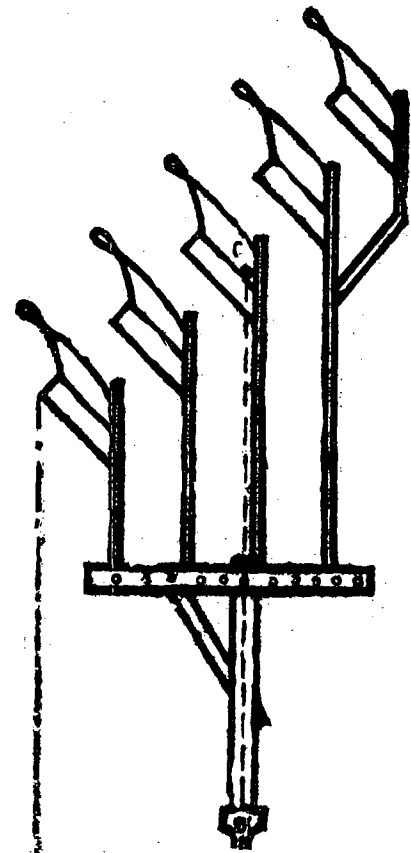

Fig. 2
*The line of resistance of the plough determined by two points, is that which joins the centre of resistance of the mid-section (C) with the hole of the hitching device (D) passing through the drawbar of the tractor (Fig. 2).*